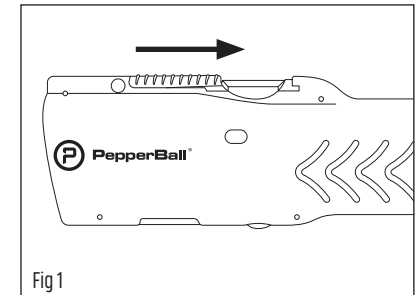

Fig 1
1. PLACE THE LIFELITE™ IN SAFE MODE - Slide the safety towards the rear of the launcher until it is fully covering the trigger. (Fig 1)